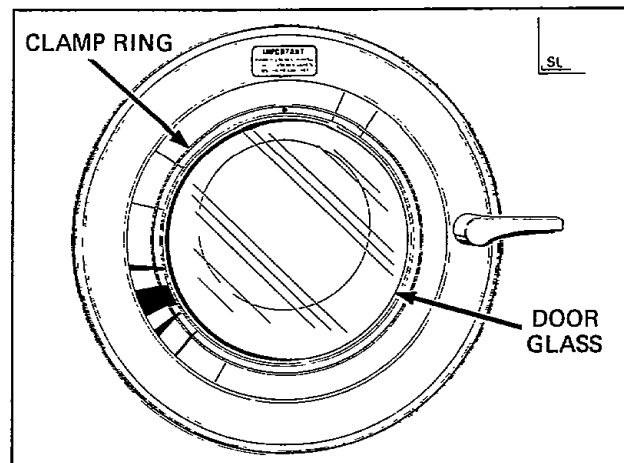

Figure 6
- For door shown in *Figure 6*: Remove clamp ring with round blunt tool, such as a drift punch, and remove door glass and gasket.